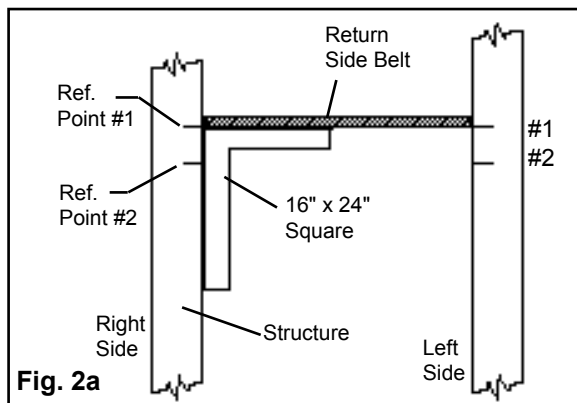

Fig. 2a
- Using the 16" x 24" square, lightly raise the return side belt (take out cupping or sagging on edges) to find the belt's true parallel path to the structure; and mark reference point #1 on the structure on both sides of the conveyor. Measure down 3" (75mm) from reference point #1 on both sides and mark reference point #2 (Fig. 2a).